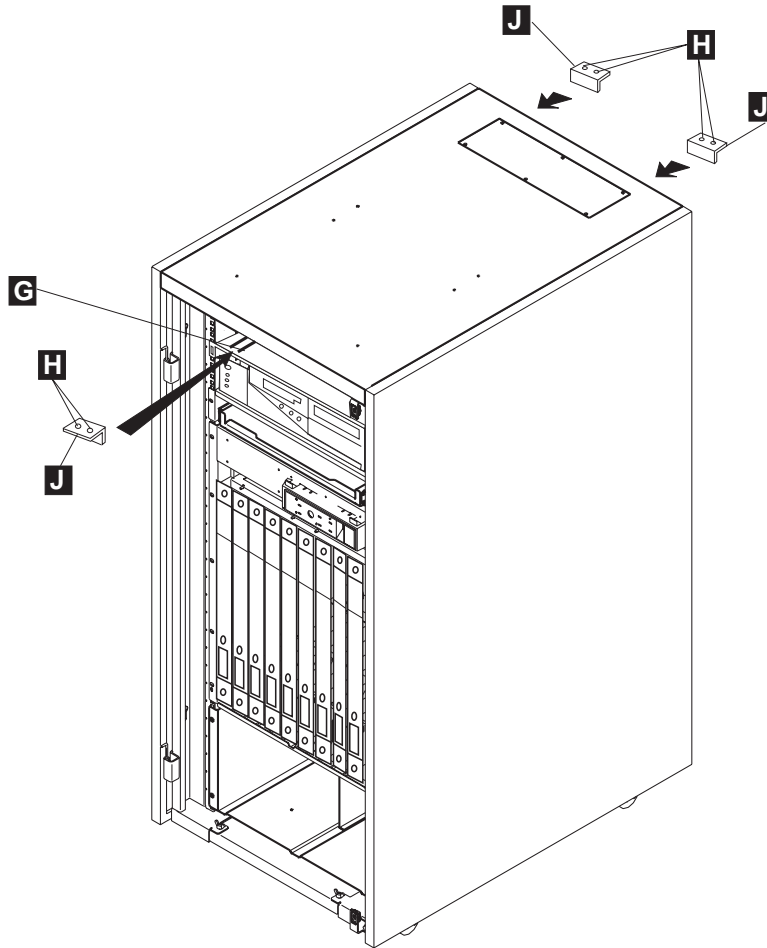

Figure 5-14. Upper Plate Installation in 29U Rack
5. On the front of the rack install the retainer **J** and secure it with screws **H** (see Figure 5-14 on page 5-14).